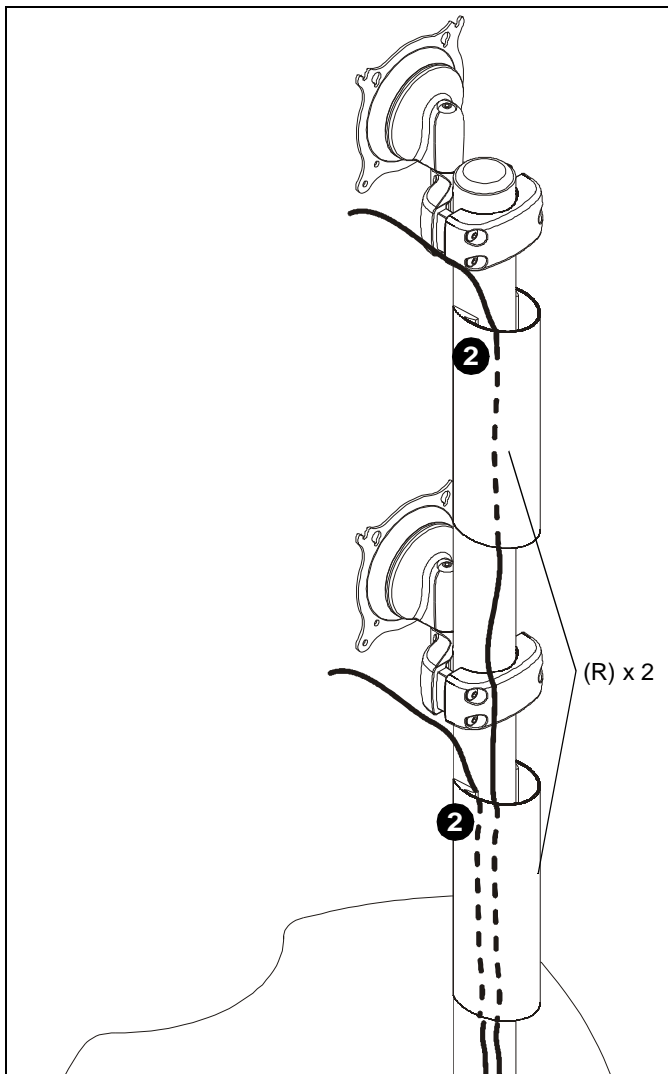

Figure 8
2. Route cables down pole and away from mount and secure to pole using cable management covers (R). (See Figure 8)